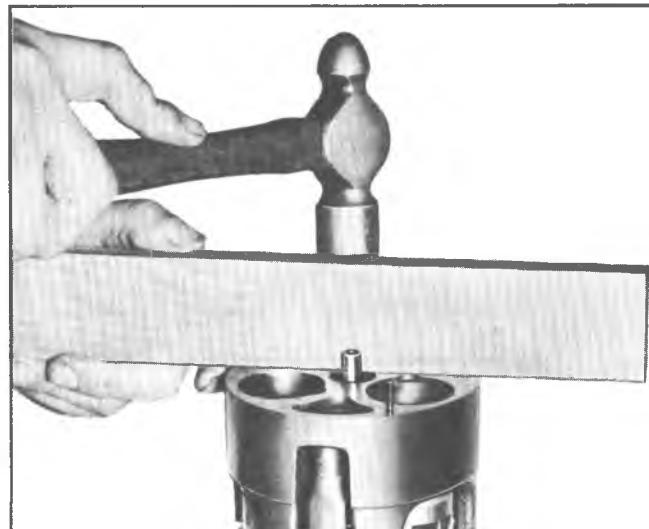

Fig. 22--Assembling Cylinder Halves
- Align the rear head casting with bores, suction passage, discharge crossover holes, and dowel pins. Tap into place, using a plastic block and mallet (fig. 22).